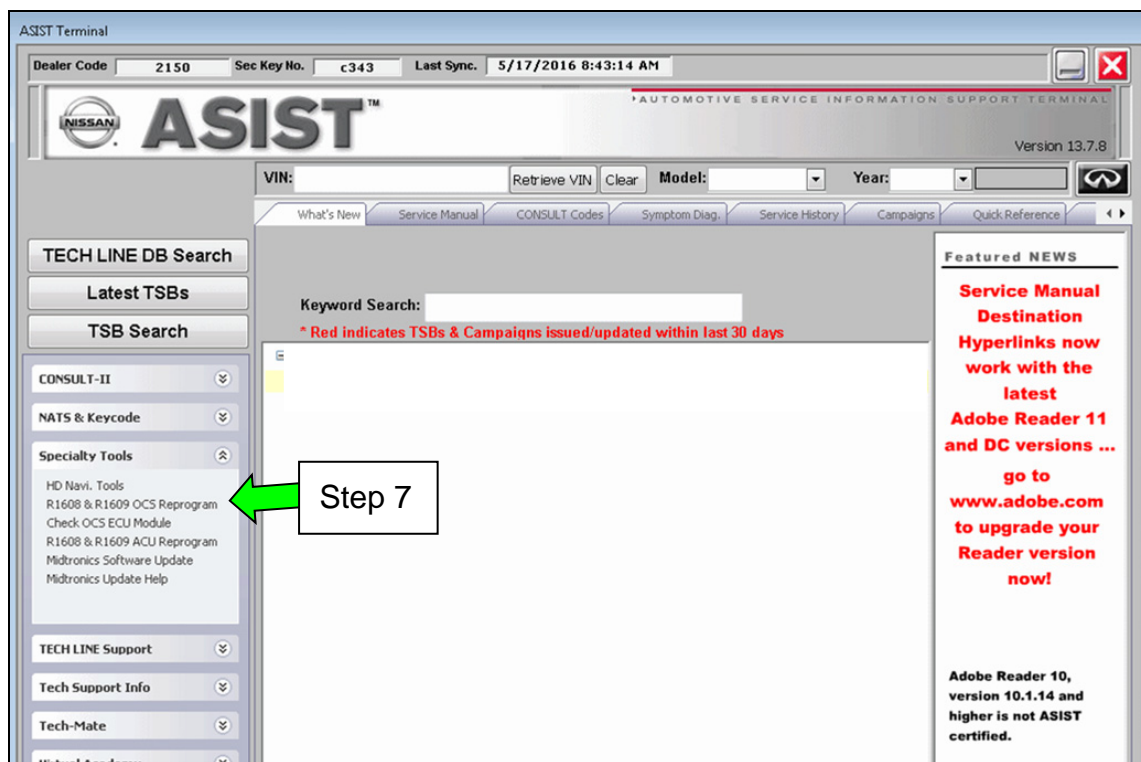

Figure 15
7. Start the CONSULT PC, open ASIST and then select “**R1608 & R1609 OCS Reprogram**” on ASIST under Specialty Tools (Figure 15).